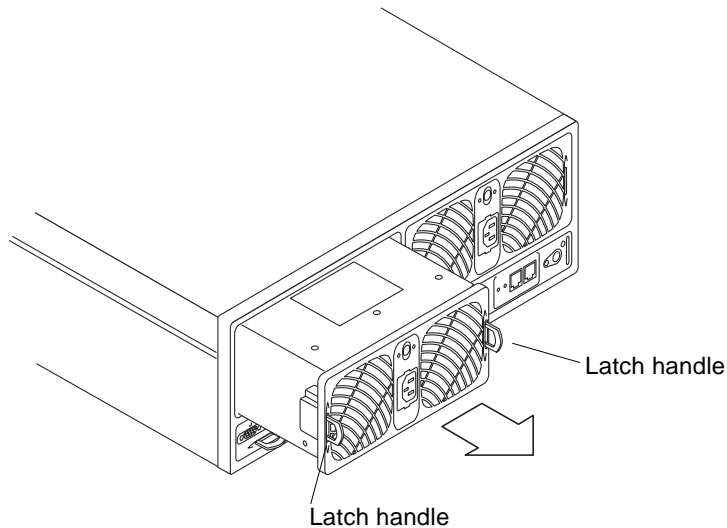

FIGURE 14-6 Removing the Power and Cooling Unit
4. **Unlock the power and cooling unit by using a coin or small screwdriver to push in and release the two latch handles** (FIGURE 14-6).